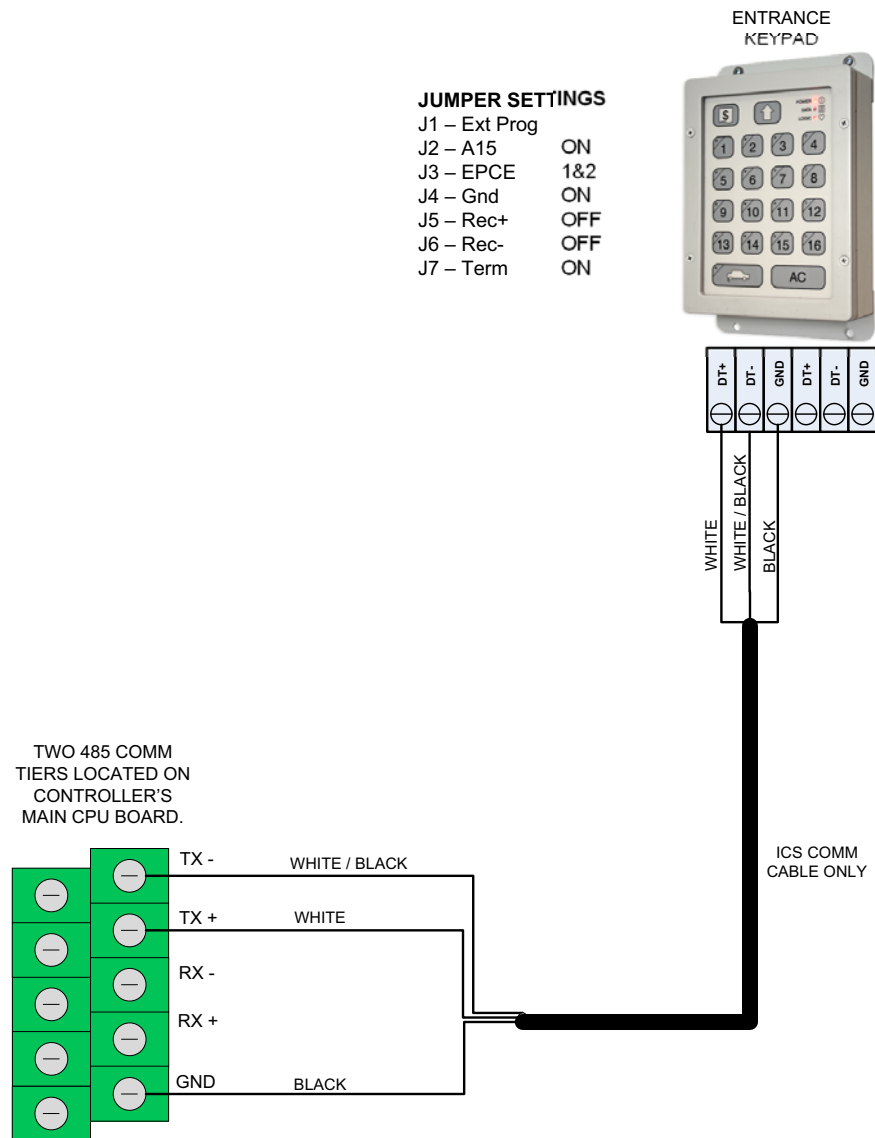

Figure 42. RS-485 Comm Terminal Wiring Diagrams (Main CPU board)
- Comm cable terminations must be made as shown in Figure 42